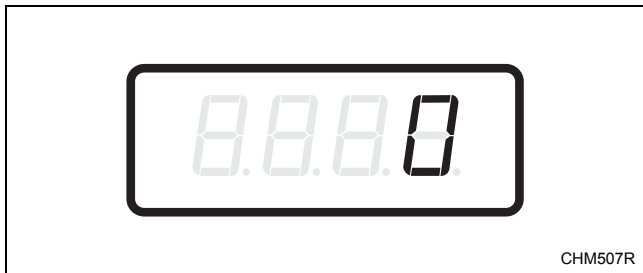

Figure 17
4. When “AtS5” appears in the display, press the START (enter) keypad. There are five digits in the Vend Price #5. The fifth digit will appear in the display and will flash one second on, one second off. Refer to *Figure 17*.